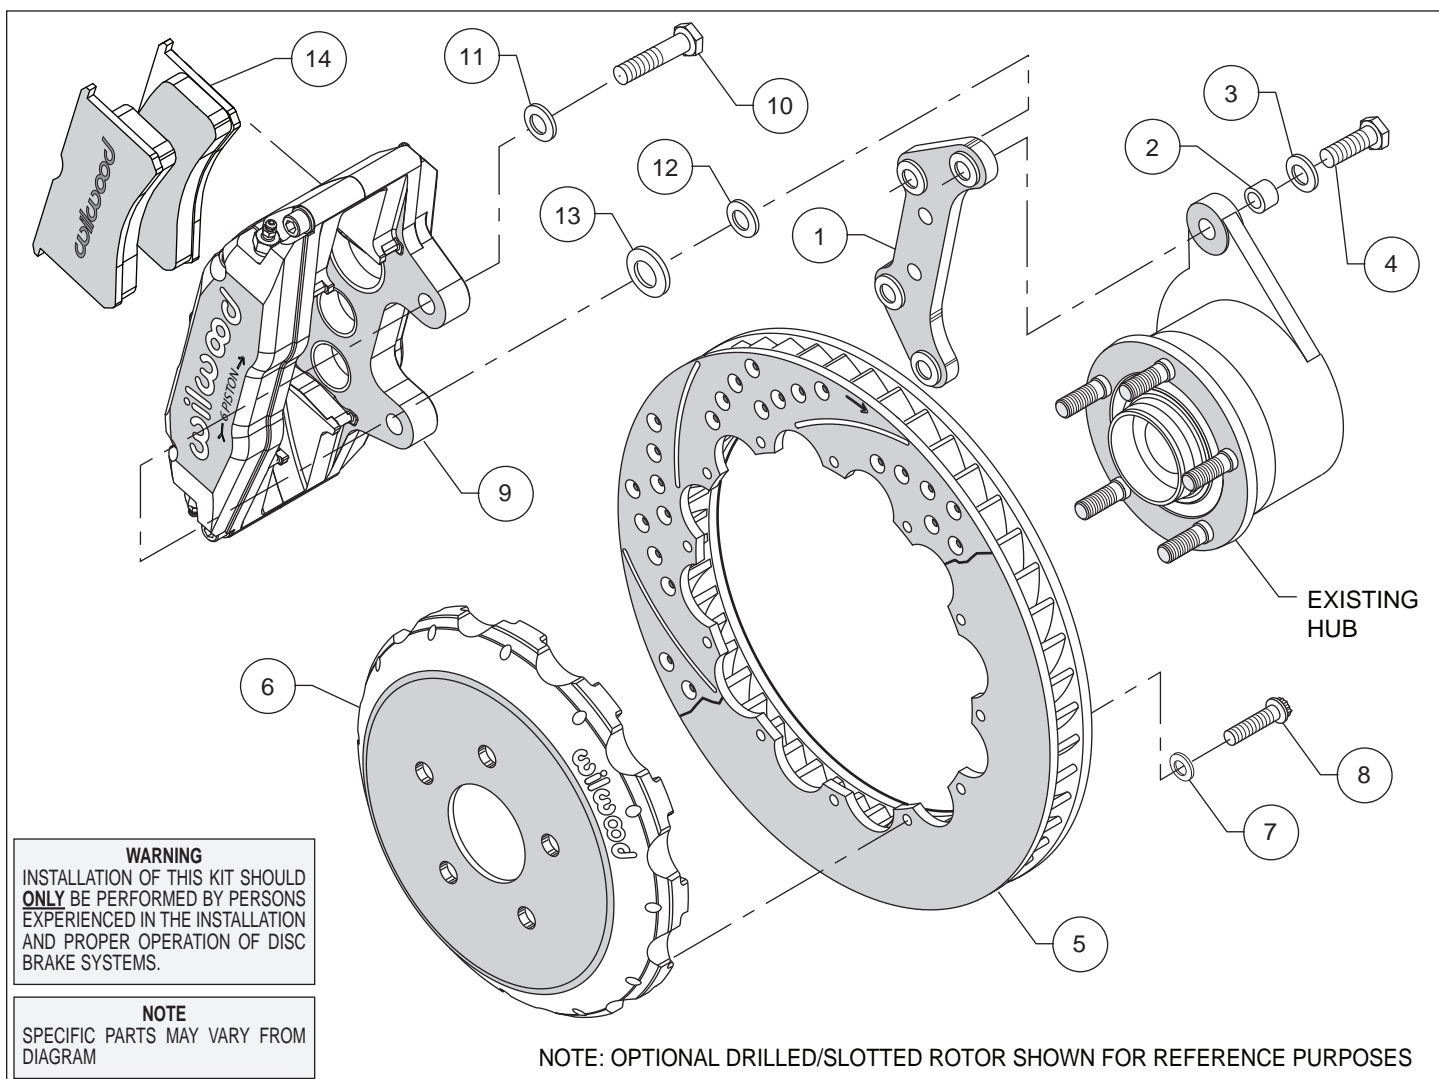

Figure 1. Typical Installation Configuration, Left Hand Application Shown
- Insert one sleeve (2) each into the holes on the top and bottom of the spindle "ears" where the OEM caliper bracket was removed. Apply red *Loctite*® 271 to the caliper mounting bracket bolt threads (4) before installation of the caliper mounting bracket (1). Install the bracket with the flanged heads of the clinch nuts facing outboard, as shown in Figure 1. Slide bolt (4) through washer (3) and into the previously installed sleeve (2), from the backside of the hub. Finger tighten. Repeat for the lower mounting holes. Torque bolts to 60 ft-lb.
•**NOTE:** Please reference the caution statement at the beginning of the assembly instructions. This kit contains distinct right and left hand calipers that must be mounted in a specific direction, as described below. Mount the caliper (9) onto the caliper mounting bracket (1) using bolts (10) and washers (11), as shown in Figure 1. Initially place one .030" thick shim (12) and spacer (13) on each bolt between the caliper and the bracket. Ensure that the caliper is mounted so the largest pistons are at the rotor exit end of the caliper, in relation to the direction of rotor rotation. Temporarily tighten the mounting bolts and view the rotor (5) through the top opening of the caliper. The rotor should be centered in the caliper. If not, adjust by adding or subtracting shims between the bracket and the caliper. Always use the same amount of shims on each of the two mounting bolts. **NOTE:** The end of each bolt must be flush with or slightly protruding from the head of the clinch nut. If necessary place spare shims between washer (11) and caliper mounting ear to achieve the proper clinch nut engagement. Once the caliper alignment and clinch nut engagement are correct, remove the bolts one at a time, apply red *Loctite*® 271 to bolt threads, and torque to 60 ft-lb.
•Remove the caliper bridge bolt and install the disc brake pads (14) then reinstall the caliper bridge bolt. Repeat this procedure for the other wheel.